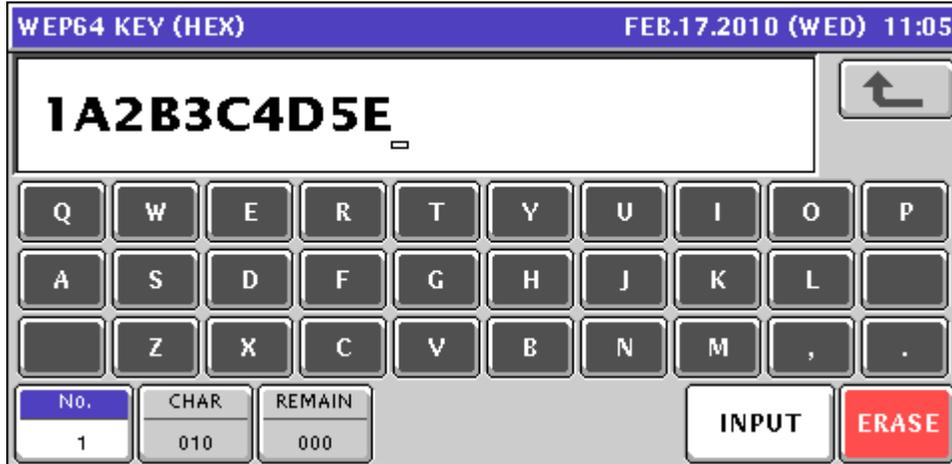

Figure 5.5. Enter the Appropriate Encryption Key
15. Enter the appropriate encryption key value. See Figure 5.5.